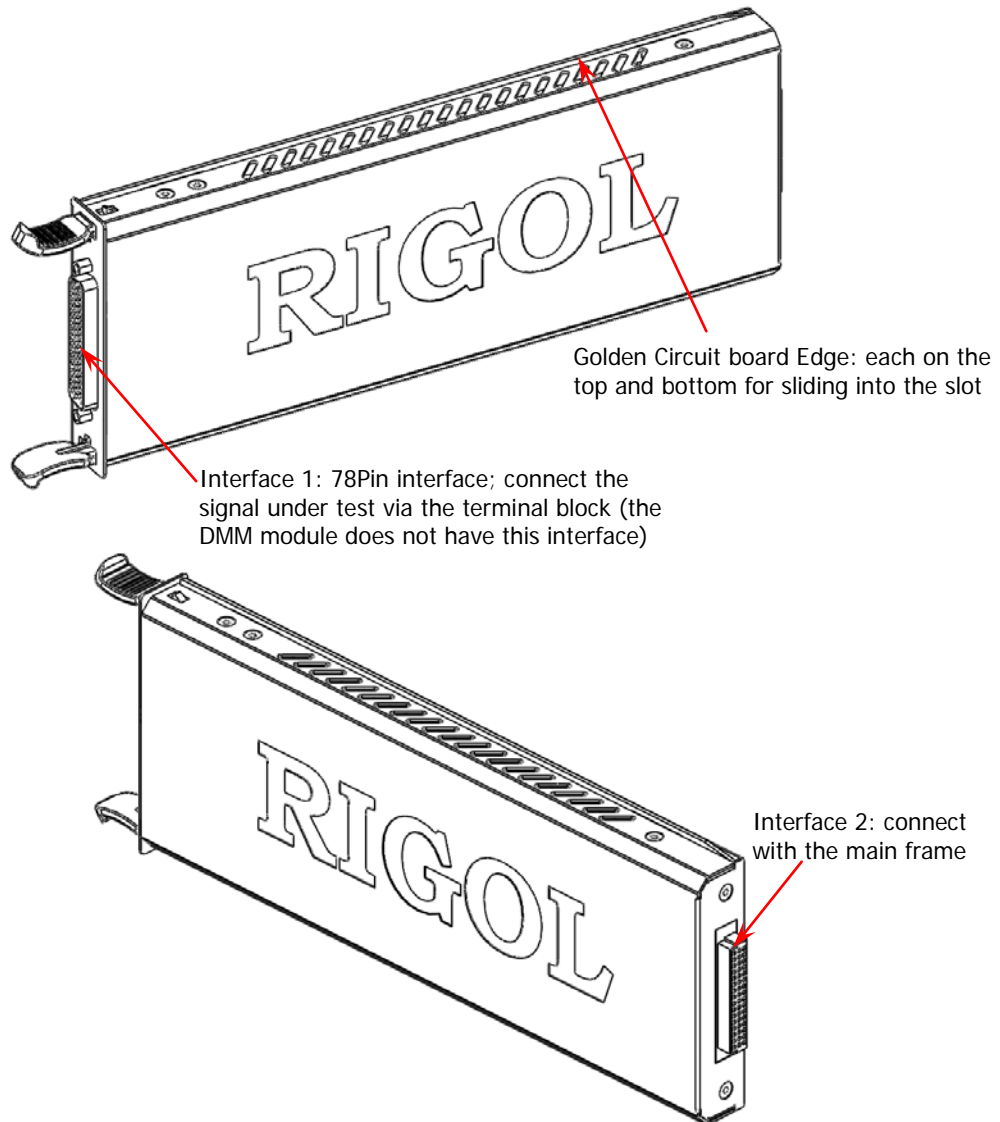

Figure 1 Module Appearance Diagrams
3. Connect the terminal block to the module via interface 1 (namely the 78Pin interface; for the interface definition, refer to Figure 1) on the module and screw down the two screw rods onto the nuts on the module.
5. Insert the module connected with the terminal block into the slot of the mainframe. As shown in Figure 1, there is a golden circuit board edge both on the top and bottom of the module. Aim the two edges with the sliding chutes in the main frame slot and push the module in until you hear a sound. At this point, interface 2 (for the interface definition, refer to Figure 1) is connected to the main frame.
The DMM module is as shown in the figure below. The DMM module does not have interface 1 (namely the 78Pin interface; for the interface definition, refer to Figure 1).